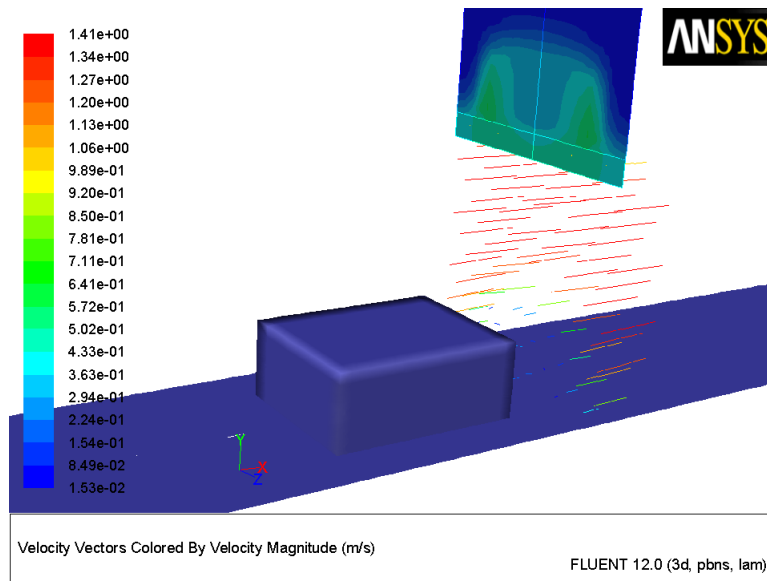

Figure 24.19: Exploded Scene Display of Temperature and Velocity
5. Create the exploded view by translating the contour display, placing it above the vectors (Figure 24.19).
The exploded view allows you to see the contours and vectors as distinct displays in the final scene (Figure 24.19).